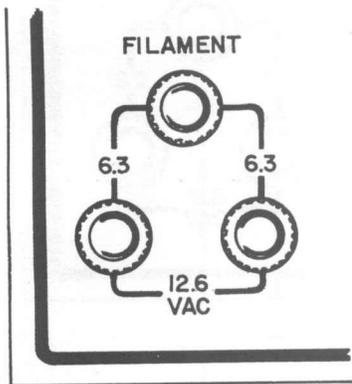

FIGURE 2-1
1. Using Figure 2-1 and the space provided, draw a circuit showing two 6.3 VAC lamps, at 1.3 A each, connected to the 12.6 VAC binding posts.
2. Will the circuit breakers hold for the circuit of Figure 2-1? _____
3. If the current rating of each lamp in Figure 2-1 were doubled, would the circuit breakers hold? _____